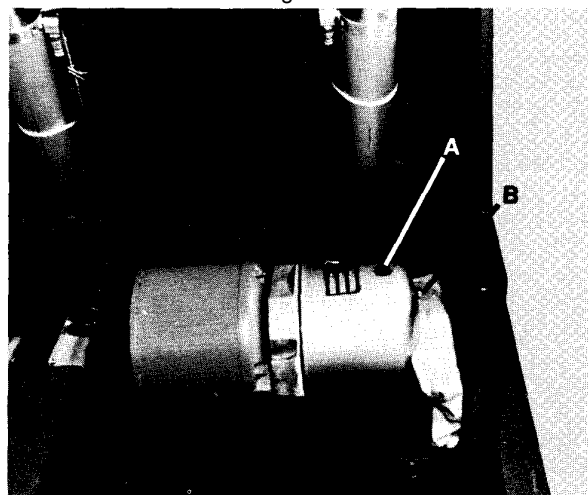

Fig. 26
- 3) Remove small screw, Item B, Fig. 26 from end of tank and place a rag under this screw hole.
- 5) Replace small screw, Item B, Fig. 26 in end of tank.
- 6) Replace plastic filler cap, Item A, Fig. 26.